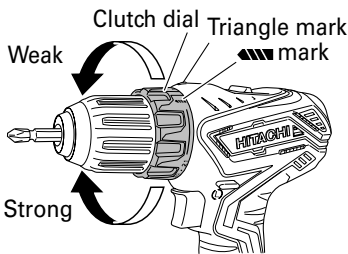

Fig. 9
6. Confirm the clutch dial position (see Fig. 9). The tightening torque of this unit can be adjusted according to the clutch dial position, at which the clutch dial is set.
- (2) **Tightening torque indication (See Fig. 9)**
- (3) **Adjusting the tightening torque (See Fig. 9)**